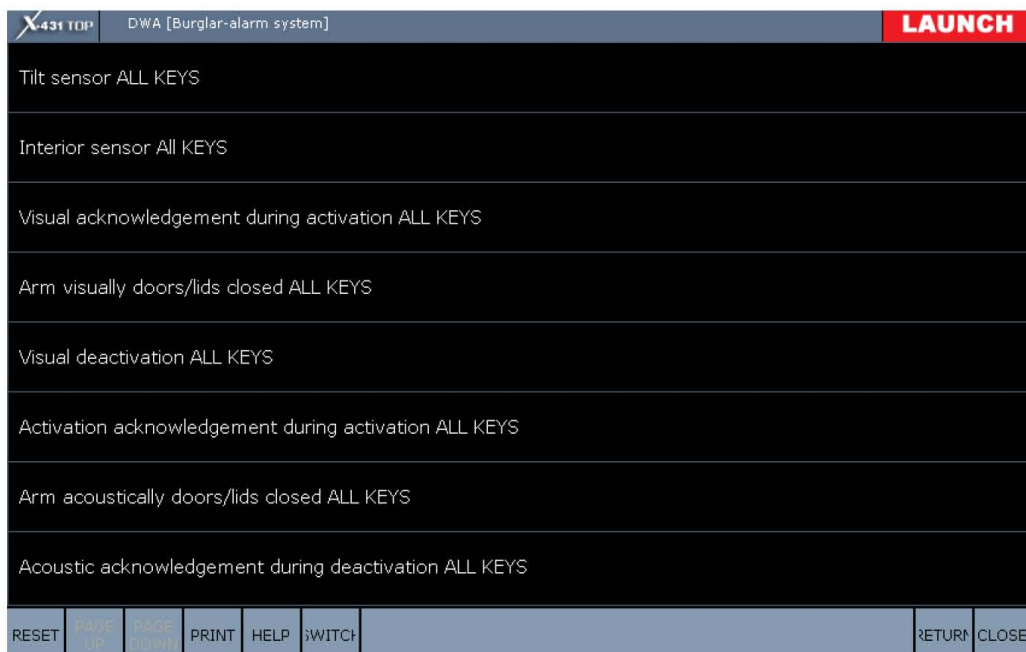

Figure 9
- 2). Car Key Memory: With this menu, user can select specified system to enter and read this system related car key memory (See Figure 9) .